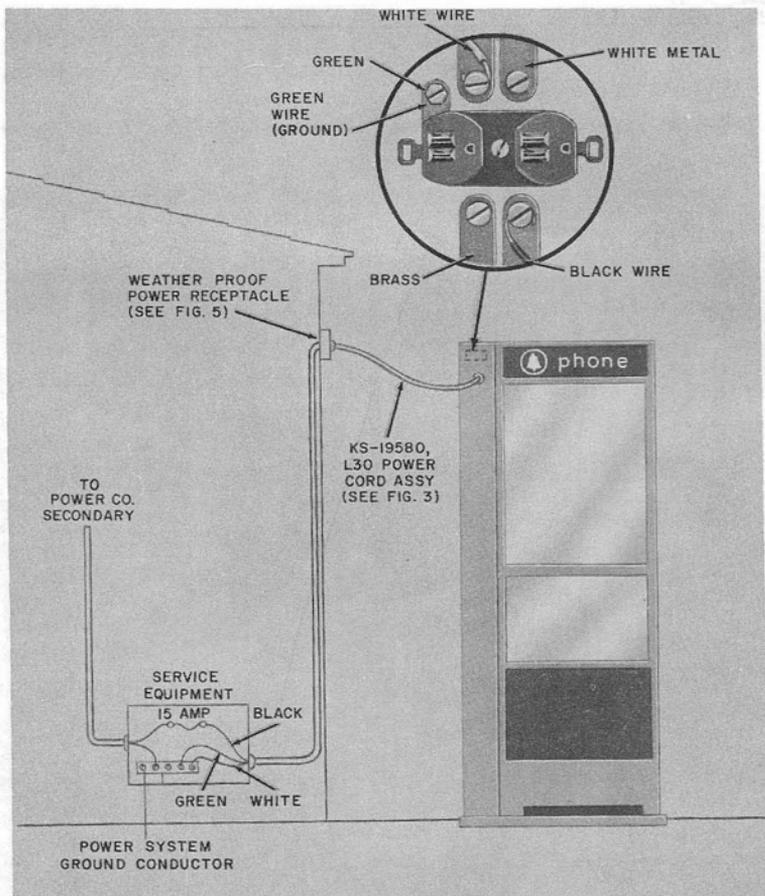

Fig. 11—3—Wire Extension of Branch Circuit to Booth By Means of Power Cord
8.05 Fig. 11 through 14 show various applications for extending branch circuit.